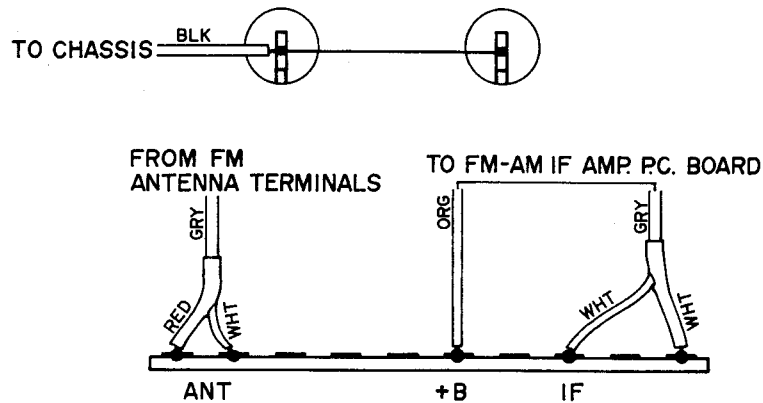

Fig. 22
1. POWER AMP. NON-INPUT CURRENT ADJUSTMENT (Refer to Fig. 22)